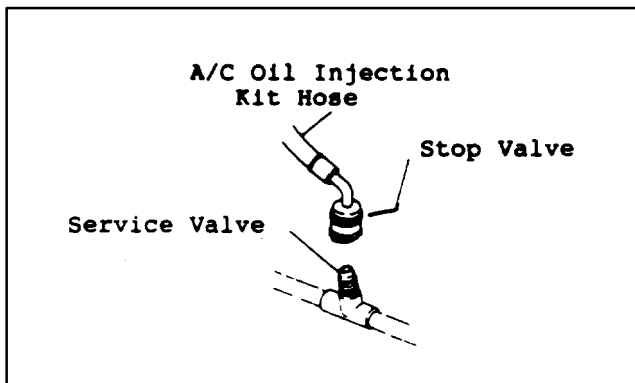

Figure 12
- (9) Stop the engine and disconnect the charging hose from the vehicle's low pressure charging valve. **(Figure 12)**